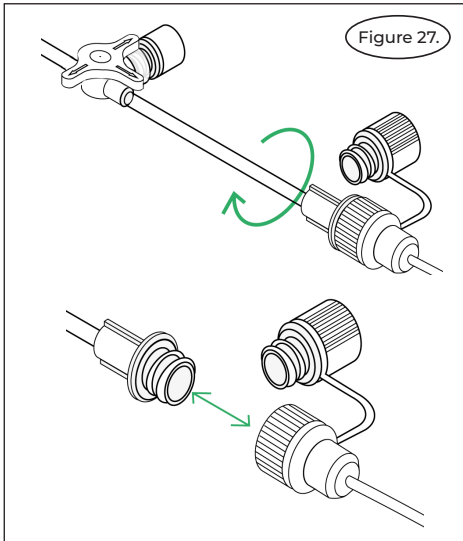

Figure 27. Disconnect iEPC from feeding pump.
- 40) Disconnect the iEPC from the feeding pump tubing by turning the enteral nutrition connector in a counterclockwise direction (Figure 27).